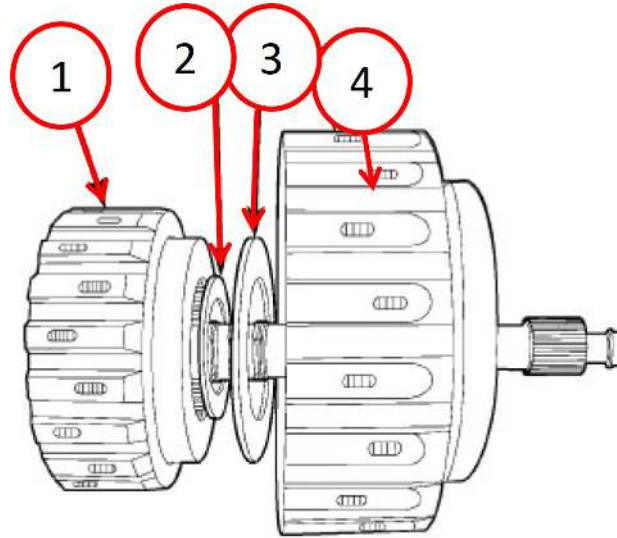
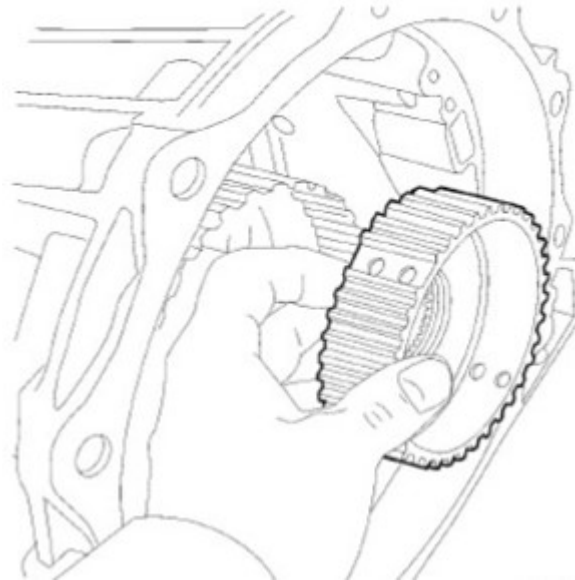

Fig. 9
Fig. 10
12. Remove the K2 clutch assembly and the selectable input shaft end-play thrust bearing number one and thrust washer from the K1 clutch/input shaft assembly (Fig. 9) .
13. Remove and inspect the K1 clutch hub (Fig. 9) and (Fig. 10) .
20. Install the K1 clutch hub and thrust bearing into the transmission case (Fig. 10) .
21. Apply trans jel or petroleum jelly onto the new input shaft seal rings and install the K2 clutch assembly onto the new K1 clutch/input shaft assembly with the original selectable input shaft end-play thrust bearing number one and thrust washer in place (Fig. 9) .